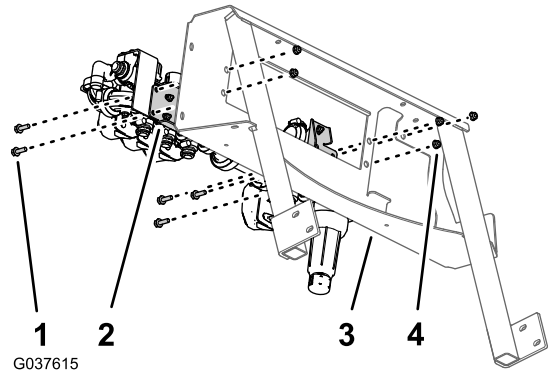

**Figure 47**
1. Remove the 2 flange clamps that secure the 2 gaskets and straight coupling to the adapter couplings at the agitation valve and the left-boom-section valve (Figure 47).
3. Align the gaskets and flow meter with the flanges of the adapter couplings at the agitation valve and the left-boom-section valve (Figure 47).
4. Secure the flow meter to the adapter couplings with the 2 flange clamps that you removed in step 1 (Figure 47).